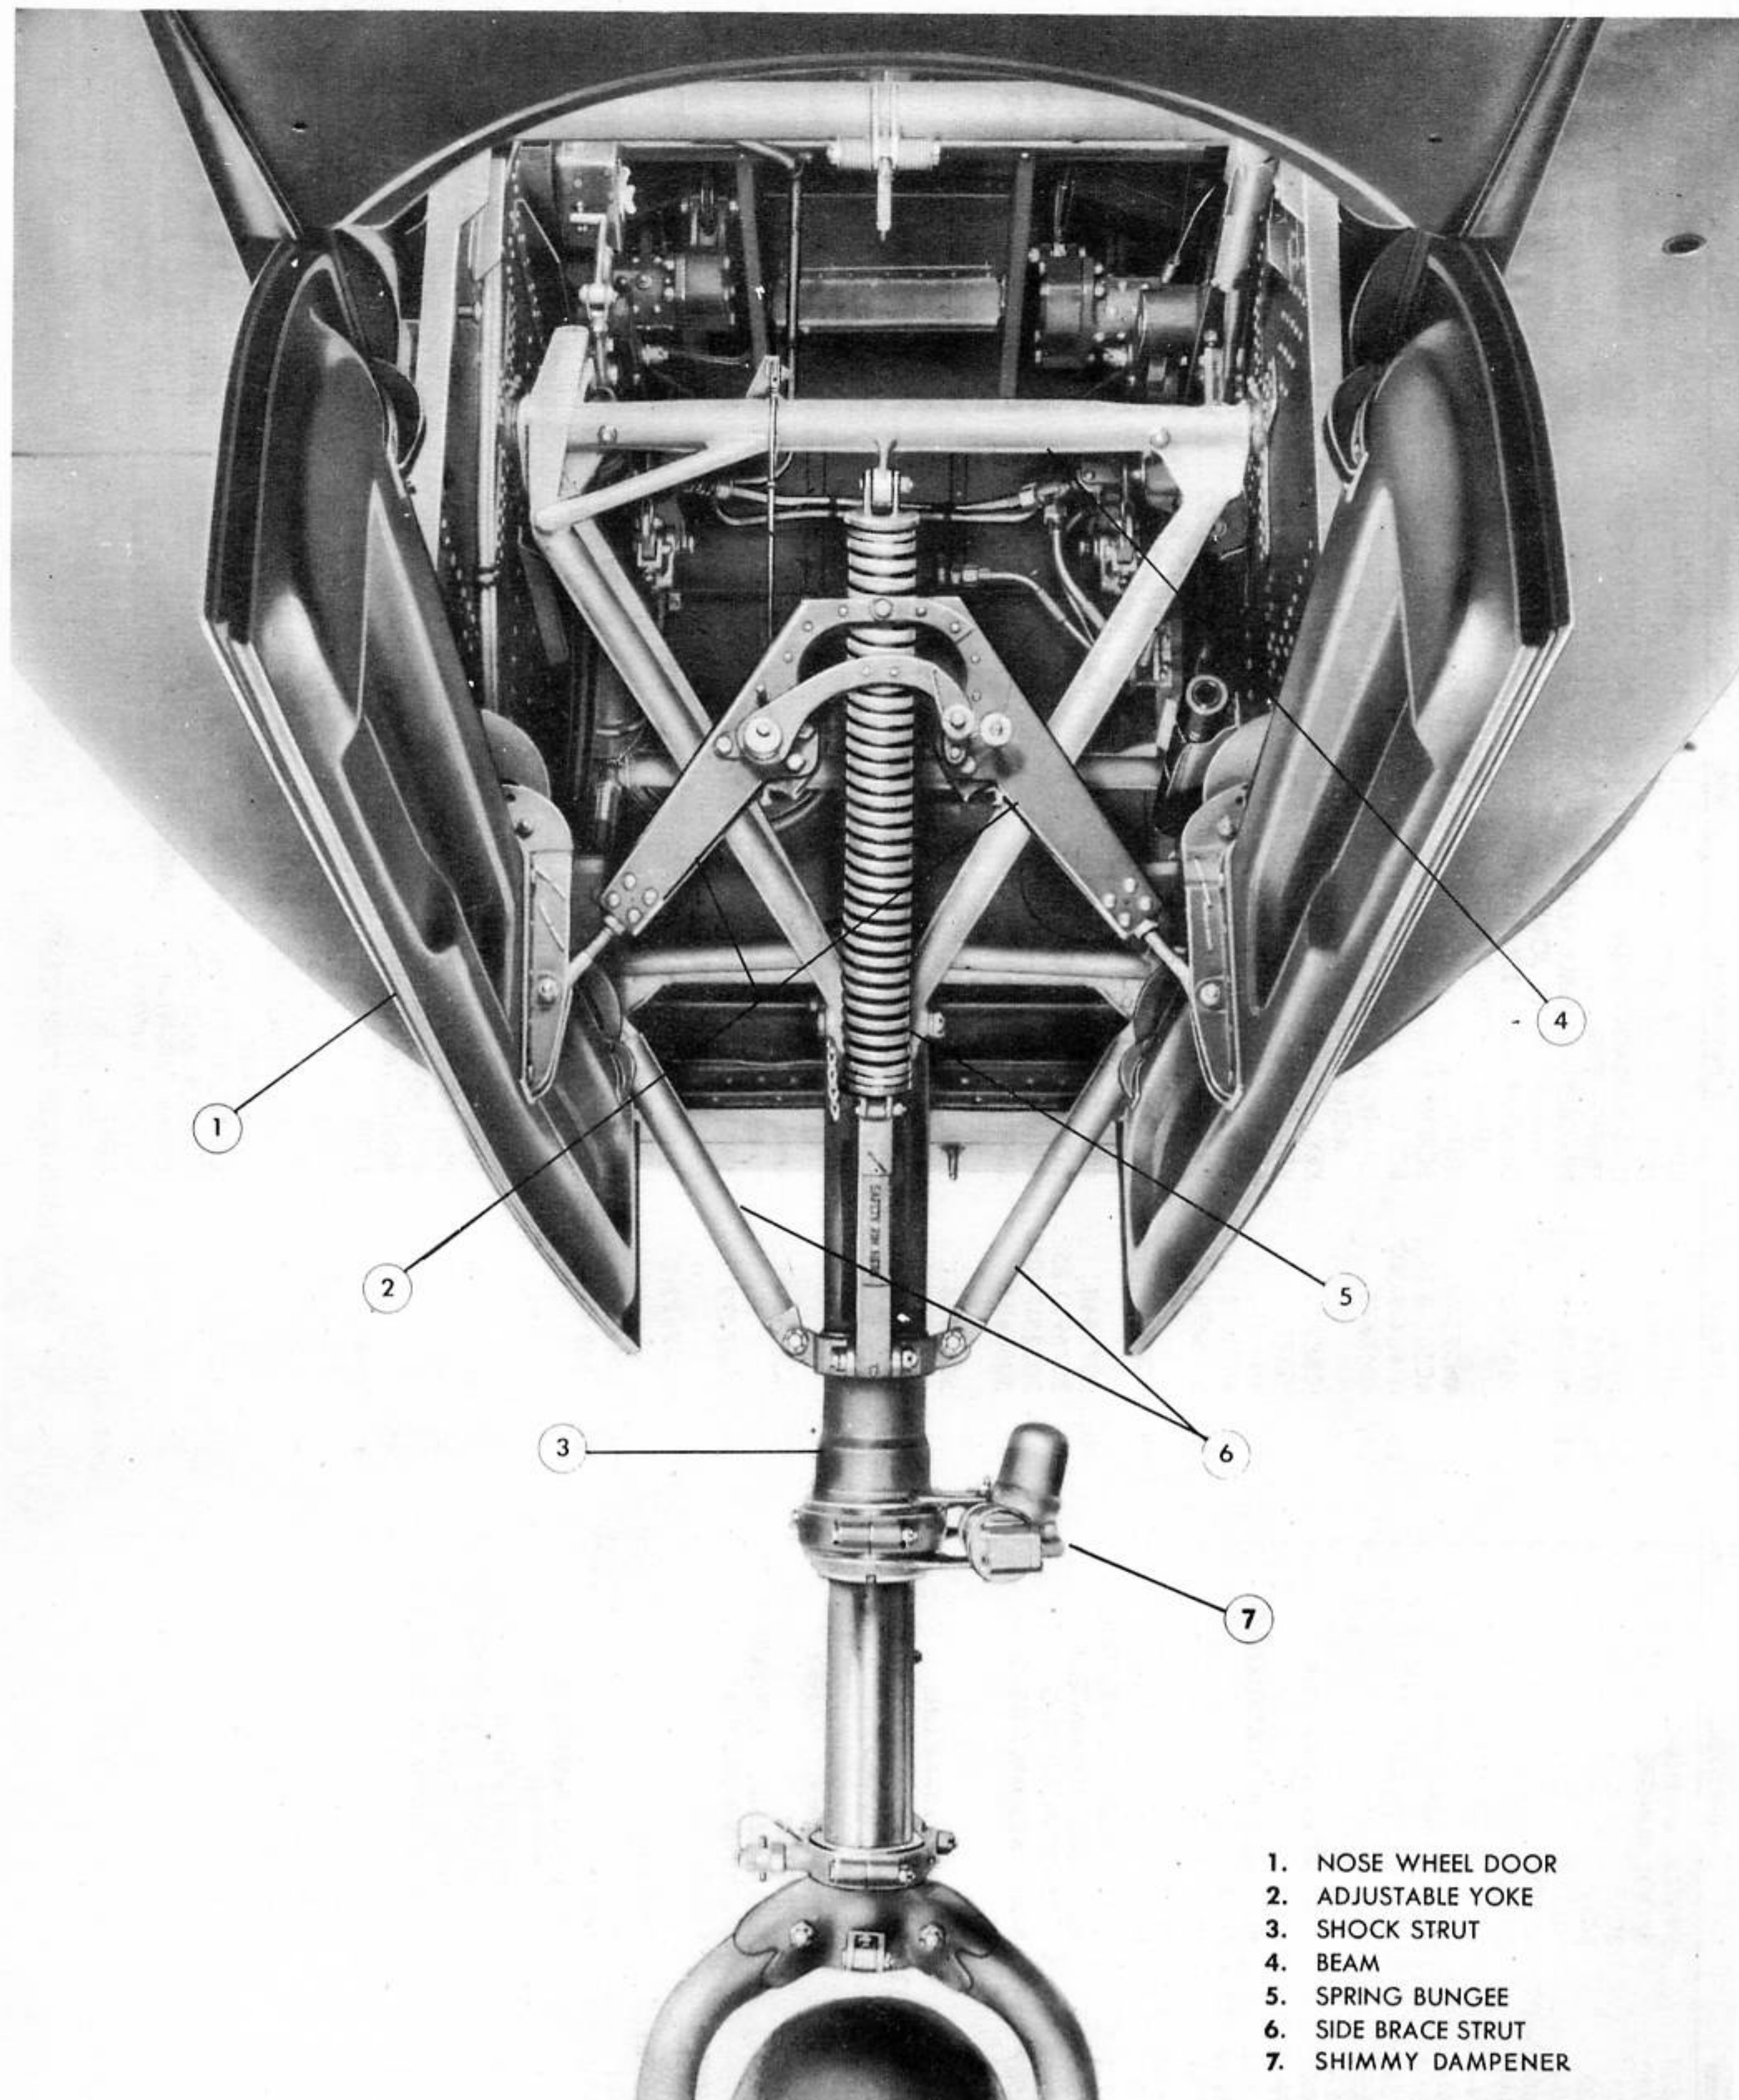

Figure 79 - NOSE ALIGHTING GEAR
(1) NOSE WHEEL DOORS. - Two nose wheel doors constructed of sheet alclad enclose the nose gear in flight. They are attached to the bottom of the fuselage with hinge bolts. Armor plate is attached by machine screws to the forward exterior surface of the doors. Interior edges of the doors are covered with bulb rubber seal.
(2) NOSE ALIGHTING GEAR. (See figure 79.) - The nose wheel is mounted in a fork on a braced oleopneumatic strut, hinged on a shaft assembly at Station 0. (See figure 7.) The nose gear is operated simultaneously with the main alighting gear by a hydraulic actuating strut. Two side braces for the shock strut are connected to a collar on the strut and to the ends of the shaft assembly. The retracting mechanism consists of two link assemblies, including a spring type bungee and the actuating strut. A mechanical latch locks the gear in the UP position. The latch is connected by cables to the alighting gear control in the pilot's cockpit and is released when the control is moved to the DOWN position. A snubber is mounted on the shock strut just above the fork and limits the casting of the wheel to